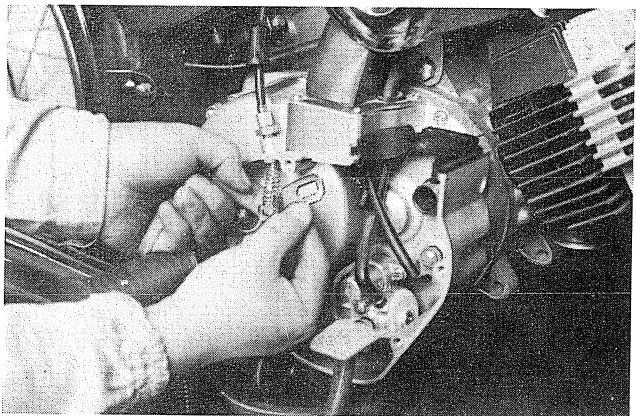

Fig. 3-1-16
13. Disconnect the clutch cable. (Fig. 3-1-16)